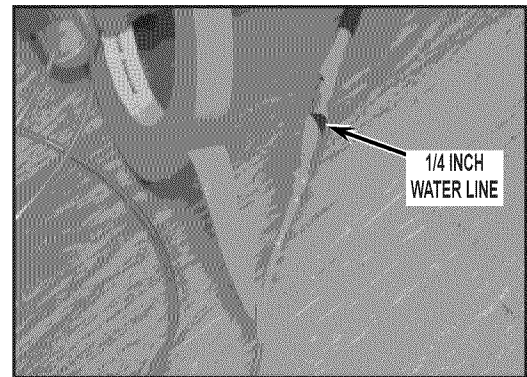

FIGURE 3
4. Securely tape an 8 foot piece of flexible wire or heavy string to the end of the 1/4 inch water line so you can pull the new 1/4 inch water line back through the door conduit. See *Figure 3*.